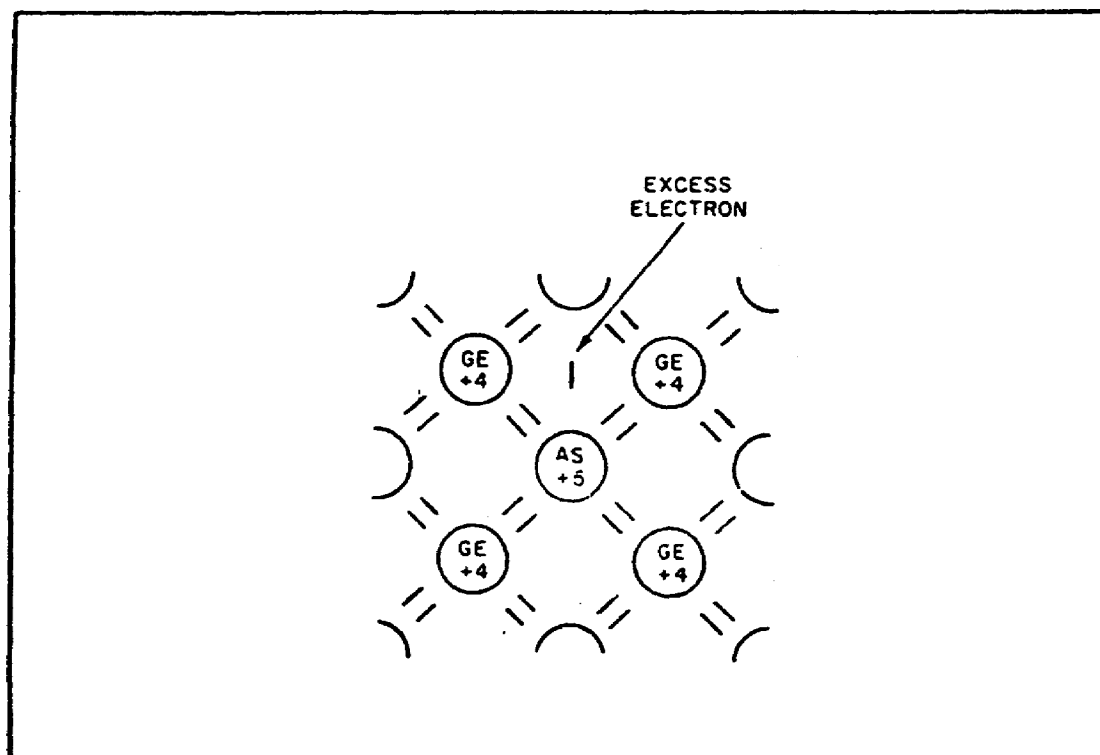

FIGURE 75. GERMANIUM CRYSTAL DOPED WITH ARSENIC.
e. *Doping Process.* Doping is the process by which small amounts of selected additives, called impurities, are added to semiconductors to increase their current flow. Semiconductors which undergo this treatment are referred to as EXTRINSIC SEMICONDUCTORS (figure 75 on the following page).